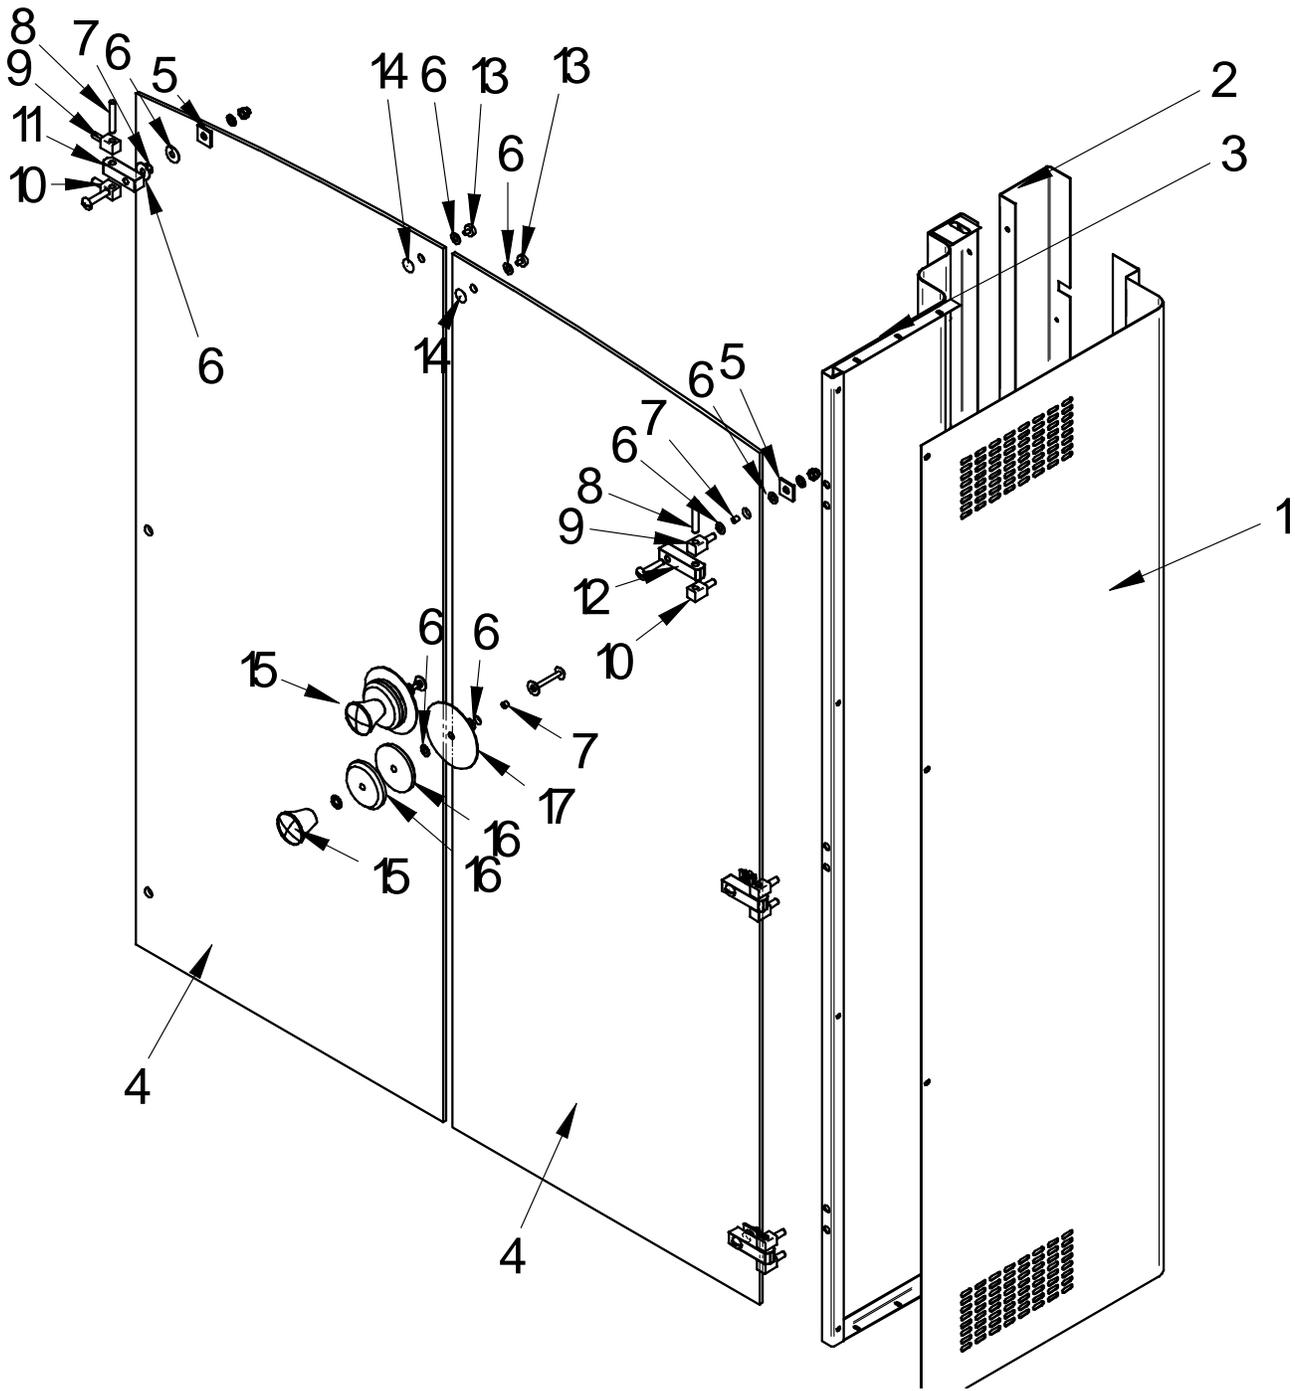

Figure 3 – Right side and Doors
11.3 Figure 3 – Right side And door